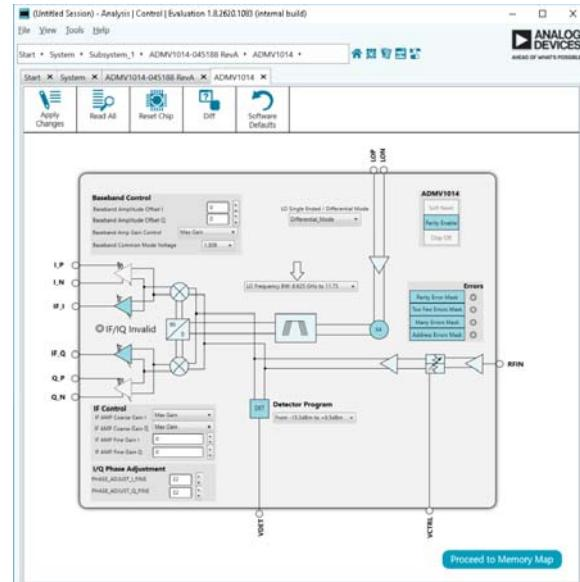

Figure 13. ADMV1014 Block Diagram in the **ACE** Software
7. The **ADMV1014** block diagram appears (see Figure 13).